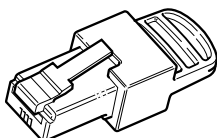

Figure 2-12 Network Terminator
- Network terminators (Figure 2-12): The Xantrex Xanbus network must be properly terminated at each end to ensure communication signal quality on the network. Network terminators plug into network ports on Xantrex Xanbus-enabled devices. The unit and other Xantrex Xanbus-enabled devices ship with one terminator. Depending on your network layout, this terminator may need to be inserted into another device elsewhere in the network. One terminator is required for all Xantrex Xanbus network configurations.